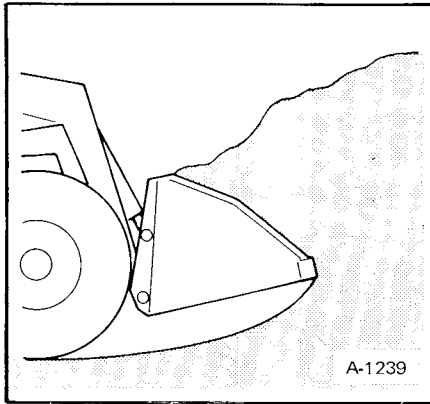

Fig. 19 Filling Bucket
3. Roll bucket back as it fills (Figure 19).